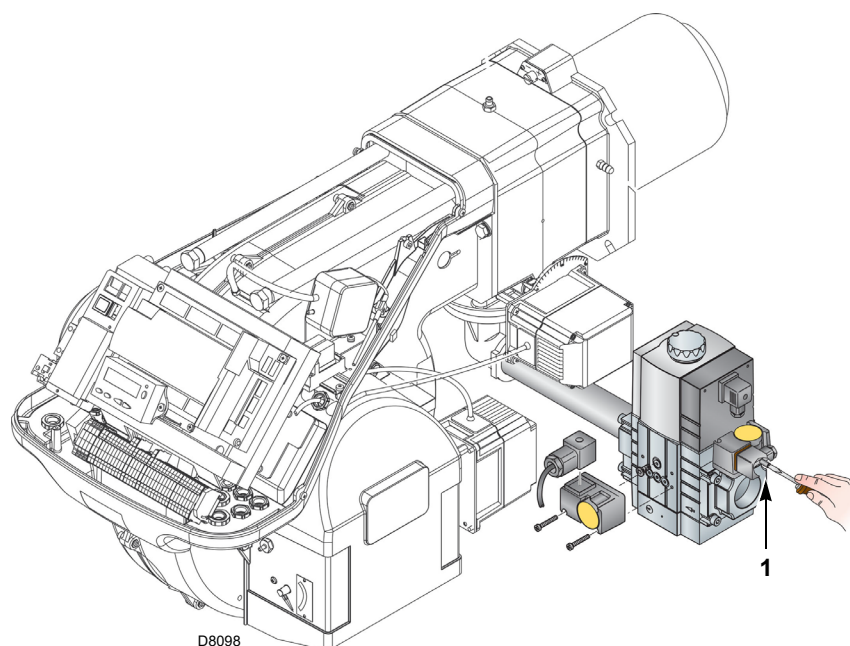

Fig. 31
- Check the gas supply pressure by connecting a pressure gauge to the pressure test point 1)(Fig. 31) of the minimum gas pressure switch: it must be lower than the maximum allowed pressure of the gas train, as shown on the characteristics label.